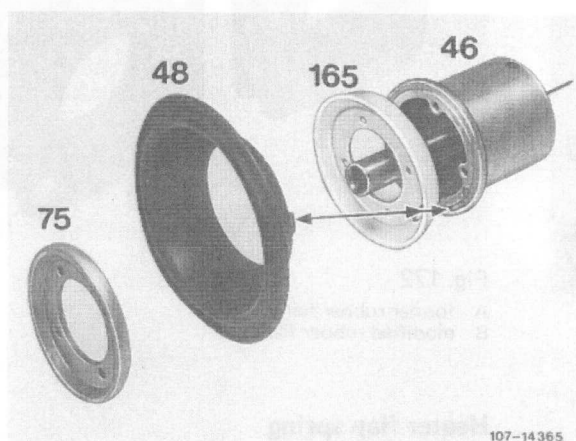

Fig. 174
Install supporting ring (165) in such a manner that the recess is located above locating groove in air piston and that the locating lug of the air piston diaphragm enters recess of supporting ring (Fig. 174, arrows).